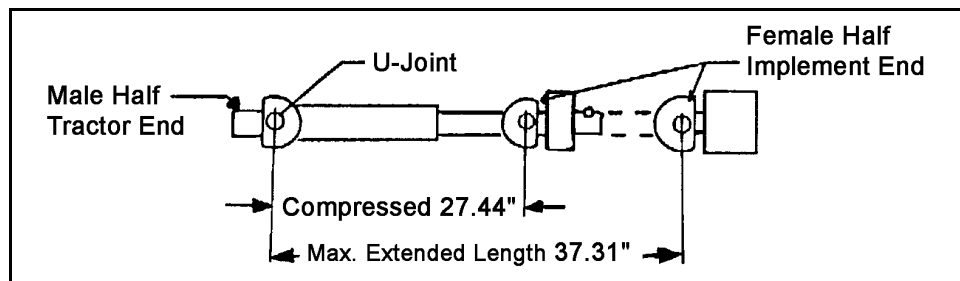

Figure 6. Driveline Dimension
5. Move the unit to its highest and lowest working position and measure this dimension again. [The unit's shaft can telescope (see Figure 6) before it has been shortened.]